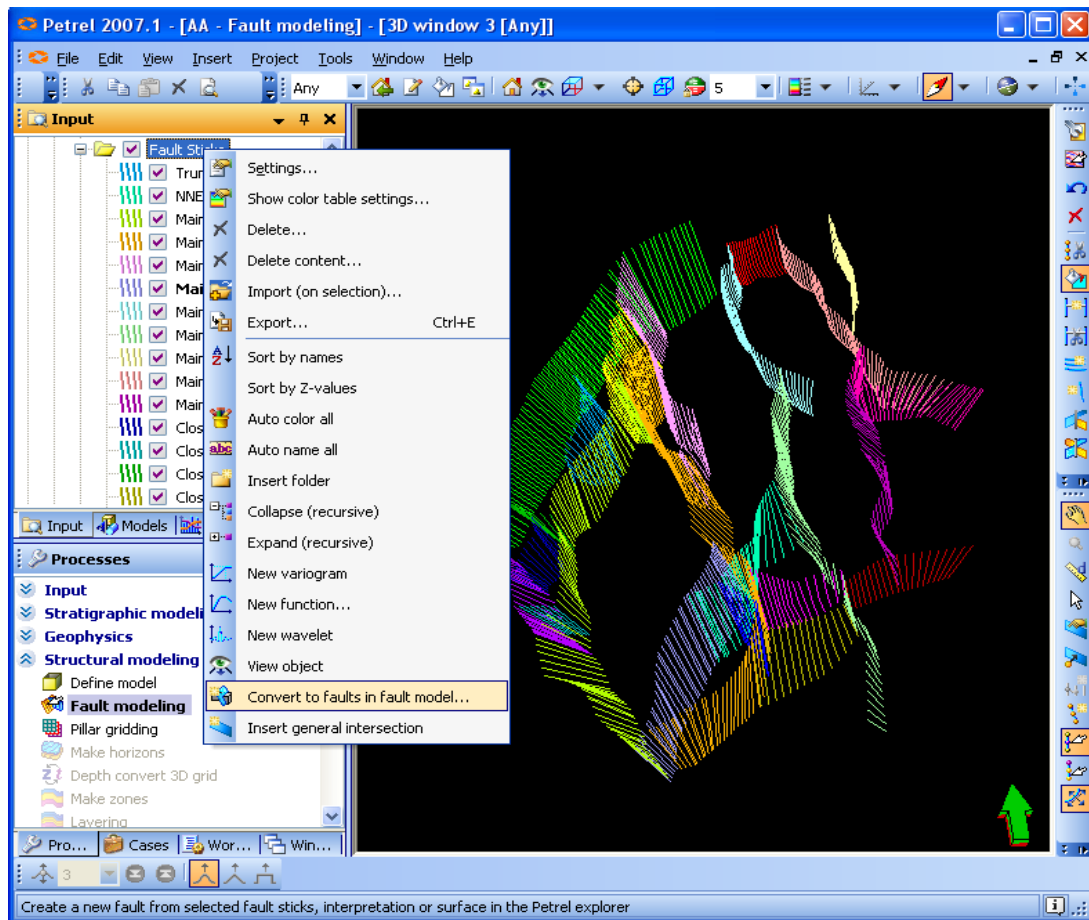

Fig. 11.34: All faults sticks before conversion displayed in a 3D window
2. Right click on the folder called “**Fault Sticks**”. Select **Convert to Faults in Fault Model...** from the appearing pull-down menu. See Fig. 11.34.